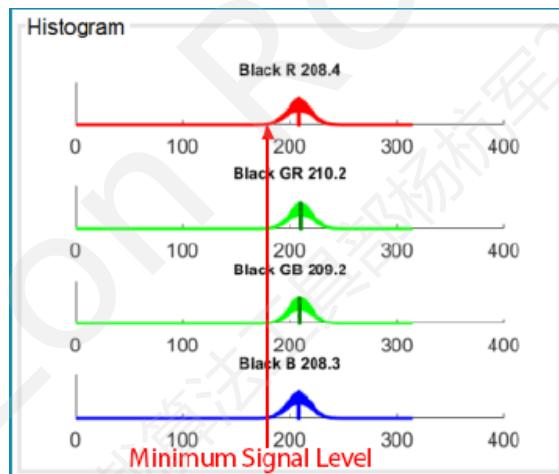

Figure 4.1-4 Black level calibration data.
4. (Native-WDR and FS-HDR ISP mode only) Use the plots in the black level module to set "Min Signal Level" to match the arrow shown (see Figure 4.1-4):